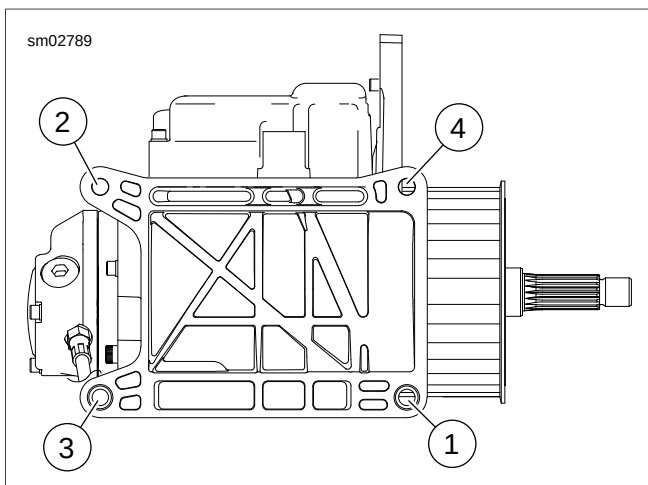

Figure 3-16. Transmission Case Hardware
7. See Figure 3-16. Install transmission case from the right side. Align all four transmission mounting holes verifying that the two lower locating dowels engage their holes in crankcase.